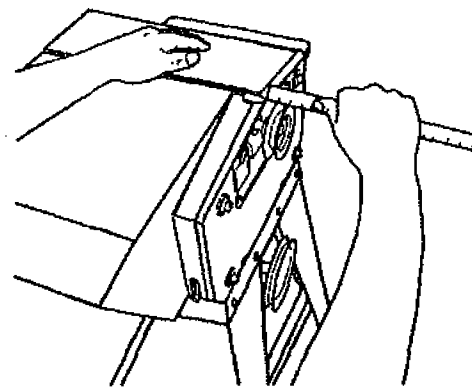
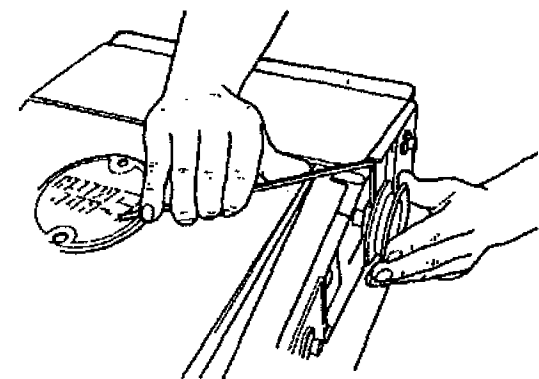

Fig. 32
Fig. 33
40. Adjust the pulley so that its inside edge is approximately 1/2" from the planer end frame, as shown in Fig. 32, then tighten the pulley setscrew, as in Fig. 33.